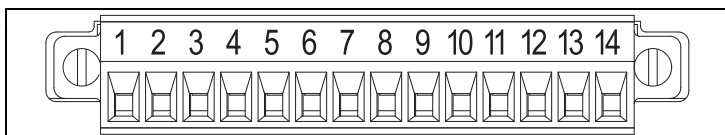

Figure 9: Pin Assignment/Identification for Accessories Plug
1. When installing the accessories kit to the MTP6000 Car Kit Junction Box, take note of the pin assignments and numbering identification laid on the Accessories Plug (refer to Figure 9 and Table 1 below).